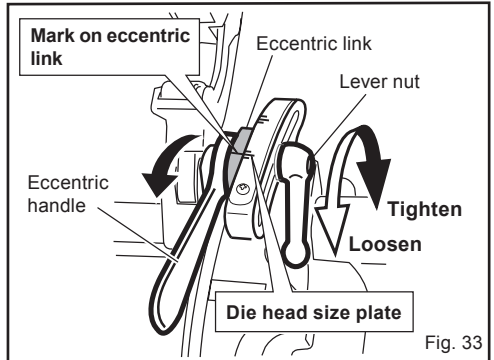
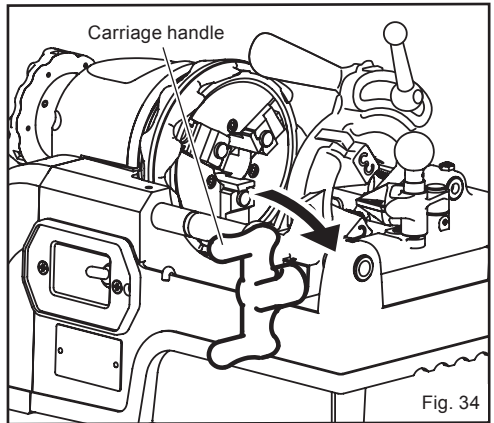

Fig. 33
Fig. 34
- (1) To match the size of the thread, align the scale on the eccentric link with the thread size on the size scale of the die head, and then tighten and fix the lever nut in position (Fig. 33).
- (2) Turn the machine on and oil will automatically flow from the die head.
- (3) Turn the carriage handle to the right to engage the pipe with the dies. Cut 3 or 4 threads and threading will then be performed automatically. (Fig.34)